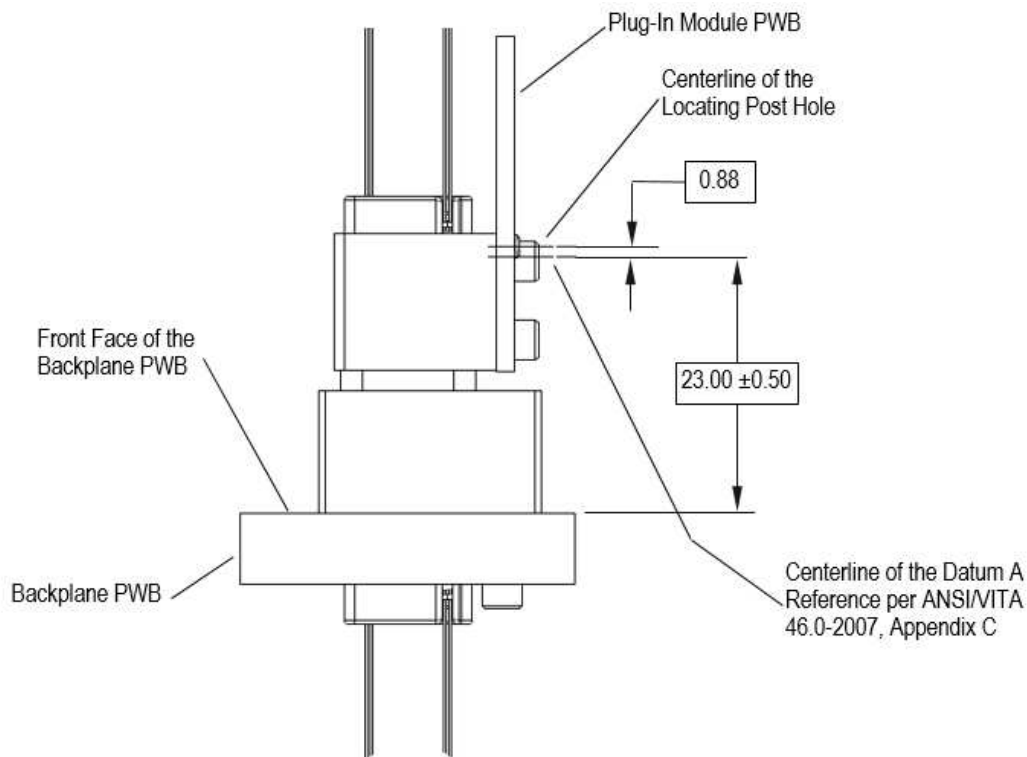

Figure 14
A. Mating Dimension/Range of Engagement (Figure 14)
To ensure proper optical coupling between the mating MT ferrules, the following distances must be within the limits specified in Figure 14: